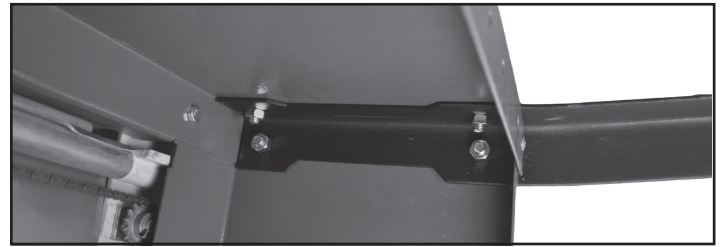

FIG. 2
3. Fasten the four Legs to the main frame of the machine, using the Bolts, Washers and Nuts provided. FIG. 2, 3.